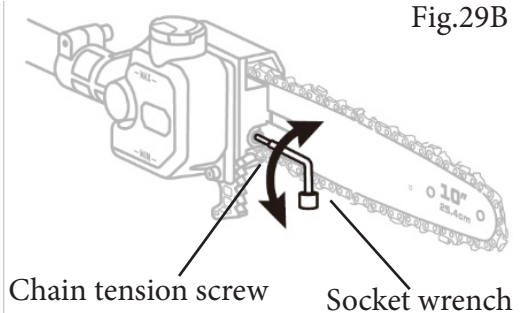

Fig.29B
- c) Turn the chain tension screw clockwise with the socket wrench provided when the tensioning of the chain is too low, or turn the chain tension screw anticlockwise when the tensioning of the chain is too strong. (Fig.29B)